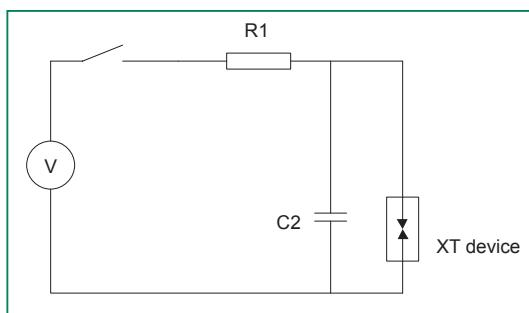
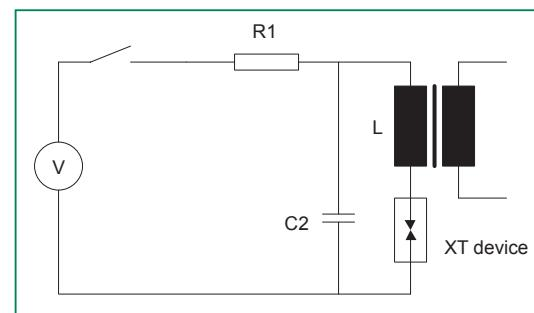

Fig 1. Recommended breakover voltage test circuit
Fig 2. Recommended life test circuit
(1) Measured on recommended test circuit (fig 1.)
(2) Measured @ 100 Volts DC
(3) Current required for transition to on-state
(4) Measured @ 1 MHz, zero Volt bias
(5) Measured on recommended test circuit (fig 2.)
(6) Duty Cycle: 1sec on, 10 sec off.
(7) Will retain these limits during life cycle